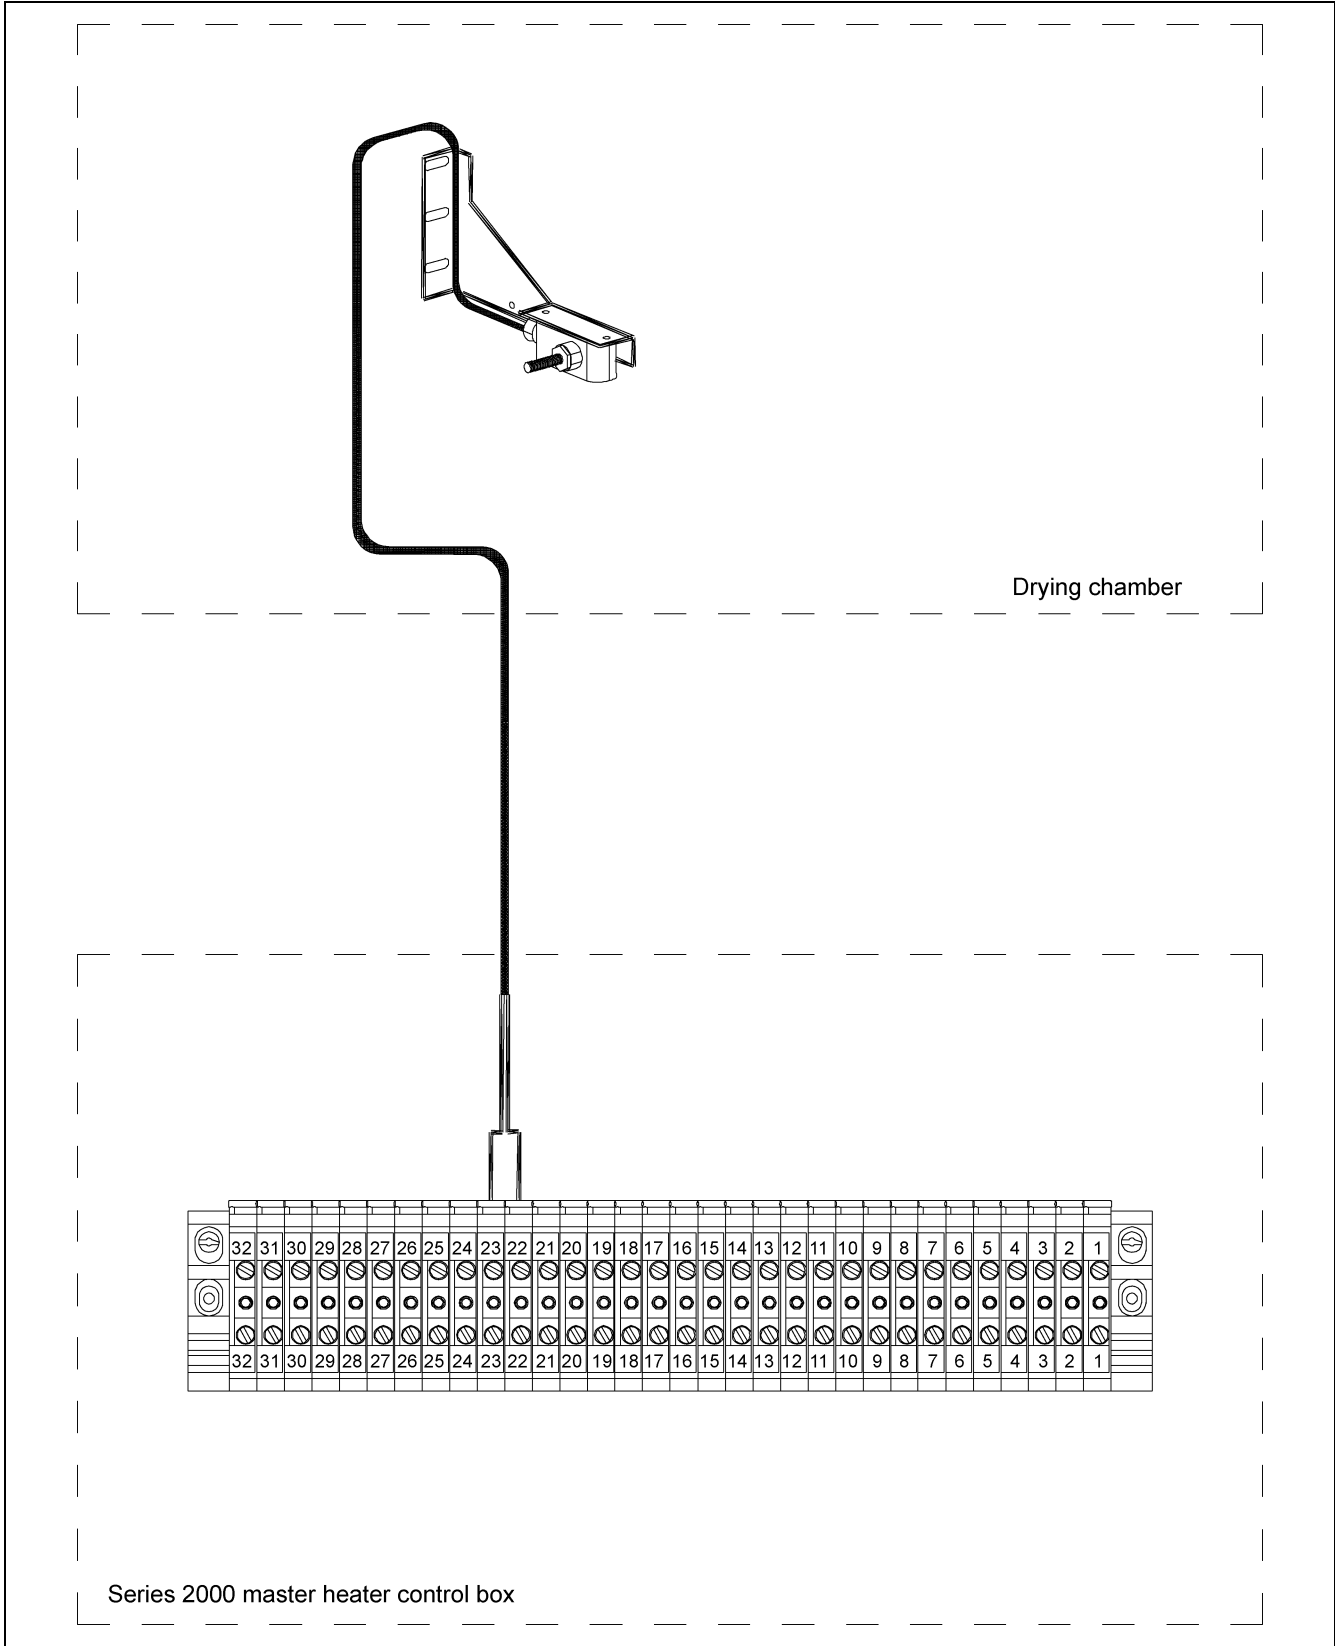

Figure 3F Illustration of the connection between the master heater control box and the drying chamber.
7. Install the two (2) wires from the cord into terminal #22 and terminal #23. *(See Figure 3F on Page 14.)*